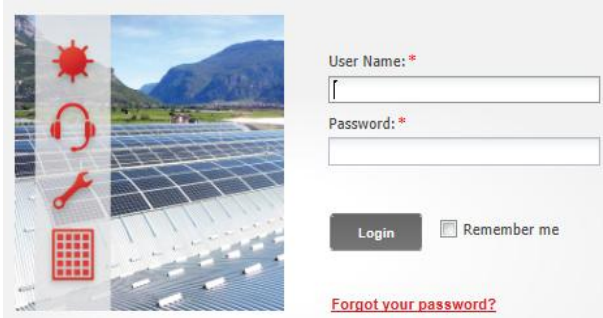

Figure 2: Login Window
- 4 When the message "User was created successfully. Please click here to login" appears, click **Login** to SolarEdge. The Login window is displayed (Figure 2).